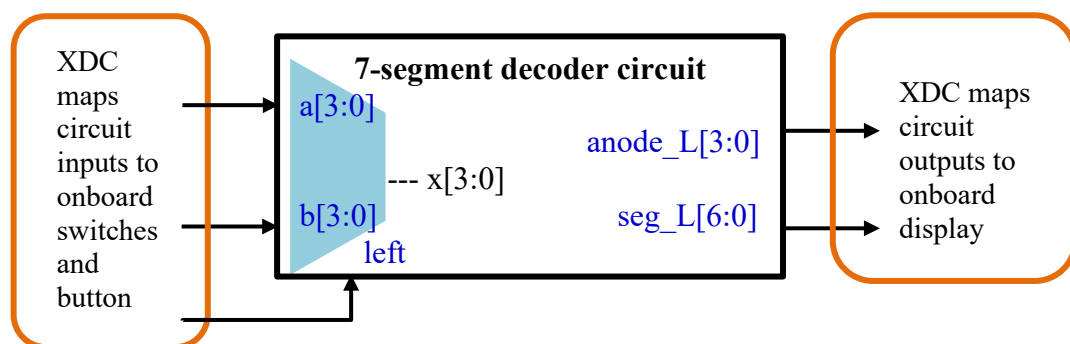

Figure 6: Multiplexer selectively displays left or right digit
- 5.5.2 Open `vsevenseg.v` to edit the design. The new circuit will have two 4-bit inputs: a and b. The input "left" will make the left digit light up instead of the right digit. Figure 6 shows how a multiplexer can be used to selectively display the digit.